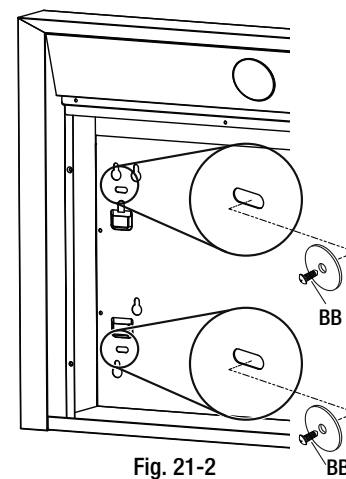

Fig. 21-2
- Framed cabinet installation requires four short tapping screws (BB) with washers. Use the two slots on each side to secure the range hood directly to the metal bracket shown in figure 21-2.